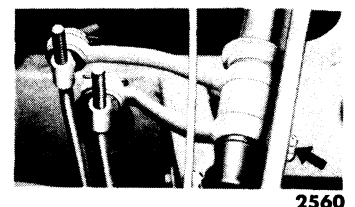

Fig. 4—Gear Shift Levers
(6) **GEARSHIFT LEVERS.** Apply pressure gun grease at the fittings shown in fig. 4.